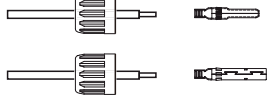

Figure 5.14 Insert the Wire into the Connector Cap nut and contact pin
2. Insert the wire into the connector cap nut and contact pin. (see Figure 5.14)